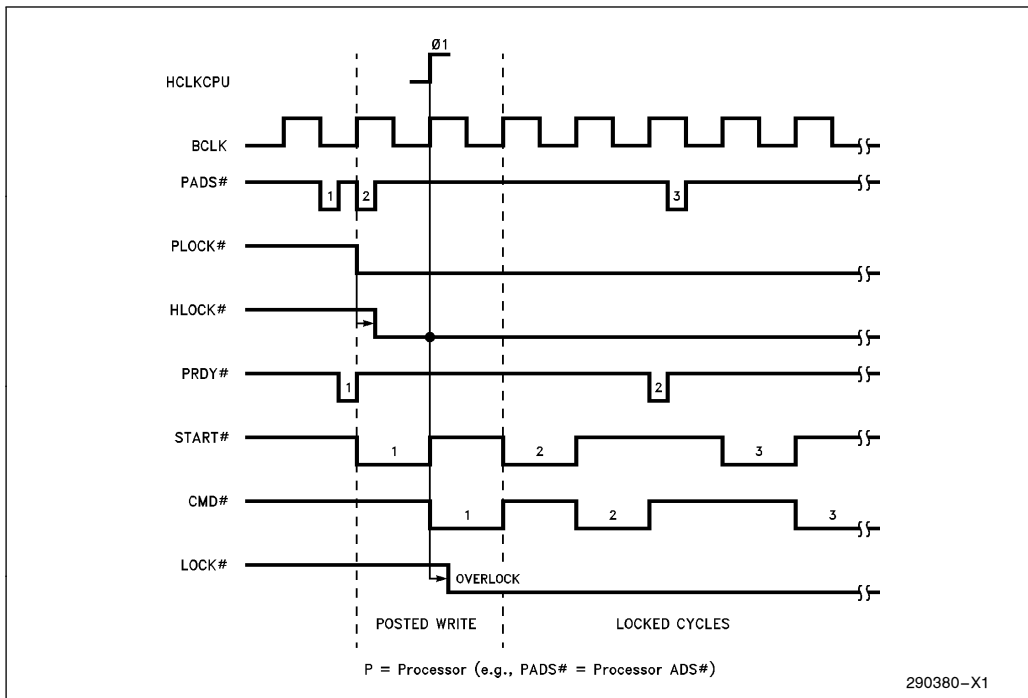

Figure 4-28. Overlock Case 1 (82350 System used as Example)
- (1) During transfers where a posted write cycle directly precedes a locked cycle, the posted write cycle will also be locked. In this case, HLOCK# is driven active prior to or during the START# signal corresponding to the posted write cycle. As mentioned above, LOCK# is asserted if HLOCK# is sampled active at the rising edge of HCLKCPU at the end of START# (refer to Figure 4-28).
- (2) If the cycle following a locked cycle is pipelined, the pipelined cycle will also be locked. The 82358DT runs host pipelined cycles as back-to-back cycles on the EISA bus (i.e., there is no idle time between the last CMD# and the next START#).